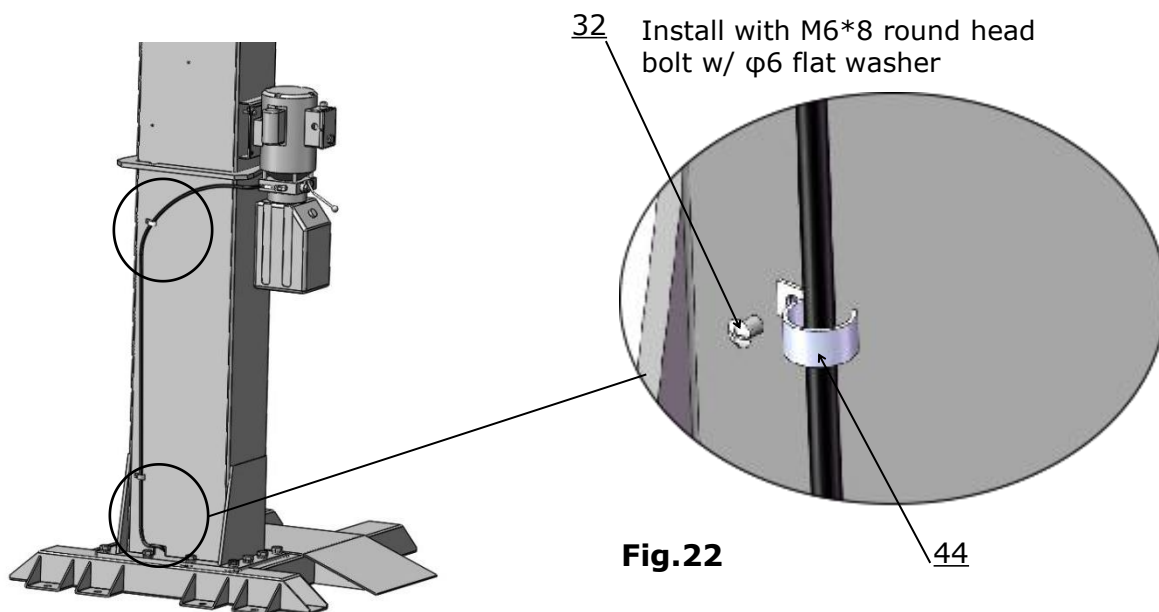

Fig.22
3. Install retainer, see fig 22.